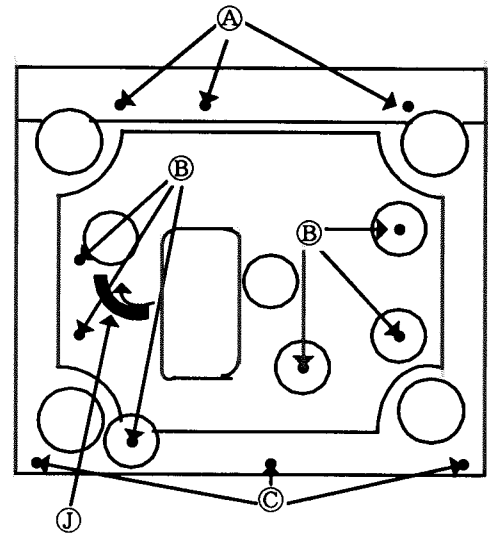

Fig 1 Bottom view
3. Remove 7 screws ①,②,③ and ④(Fig.1,2,3).
2. Remove 14 screws ①,②,③ and ④(Fig. 1,2,3).
2. Remove 8 screws ⑤,⑥ and ⑦(Fig. 1,4).
4. Move a boss on the cam which is under ⑧ hole clockwise by a screwdriver to remove the disc tray manually, and move the disc tray forward. (Fig. 1.)
(2) Life of the laser diode (Fig.1)
(Fig.1)